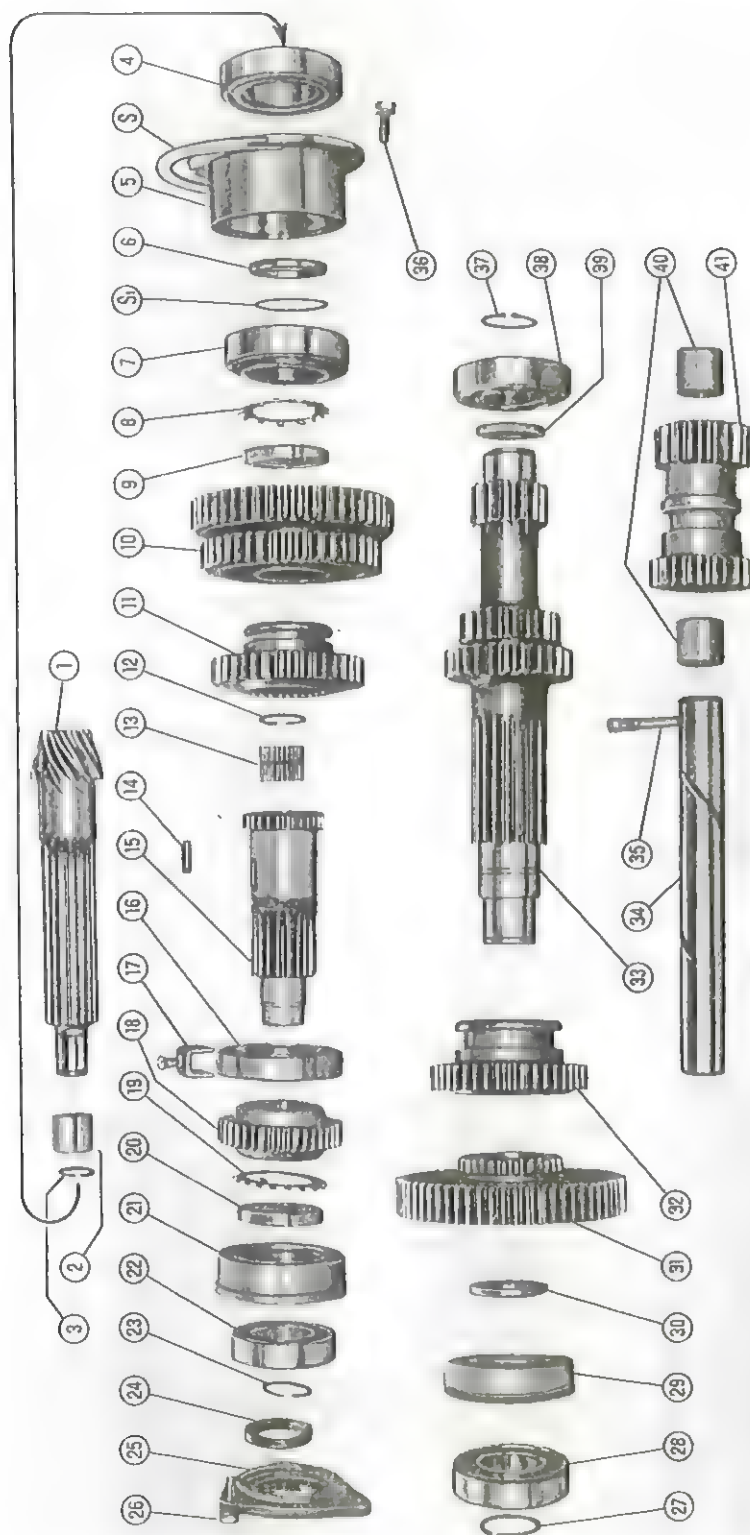

Fig. 84. - Gearbox parts.
Bevel pinion shaft (Fig. 84).
Remove the screws fastening the pinion shaft bearing cage flange to the transmission housing side wall (36, Fig. 84); pull out the bearing cage together with the pinion and shaft assembly, including the adjusting shims; slide off the spur gears (10 and 11, Fig. 84), loosen the ring nut (9) which holds the bearings in place after removing lock washer (8); pull out the bearings first then their outer races using puller A 511110.
Gearbox primary shaft (15, Fig. 84).
Intermediate shaft (33, Fig. 84).